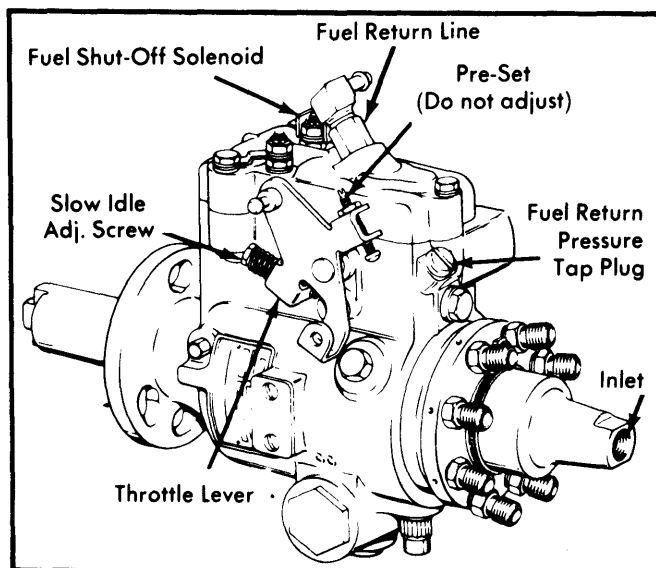

Fig. 6 Diesel Injection Pump Adjustment Locations.
2) Adjust slow idle screw on injection pump to obtain specifications shown on emissions control label. See Fig. 6 for adjustment locations.
- 1) Remove air crossover. Install screened covers (J-29996-2). Remove fuel return pressure tap plug. See Fig. 6.